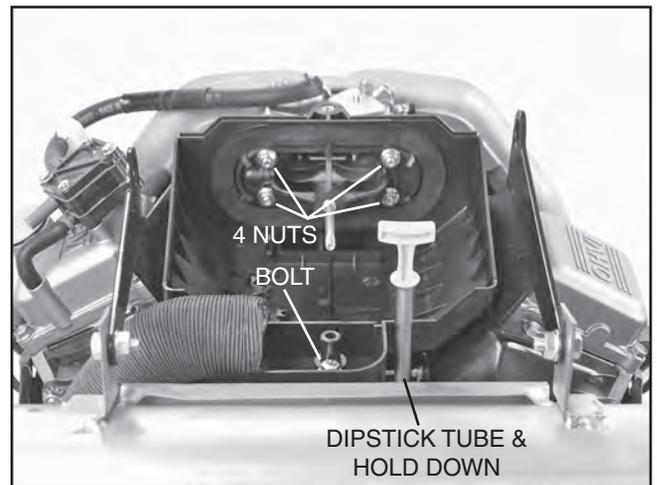

Figure 3-3. Horizontal Shaft Carburetor
3. Remove dipstick tube hold down bolt and remove tube assembly (see Figure 3-3).
4. Remove the four nuts and one bolt that retains the air cleaner base; remove base (see Figure 3-3).